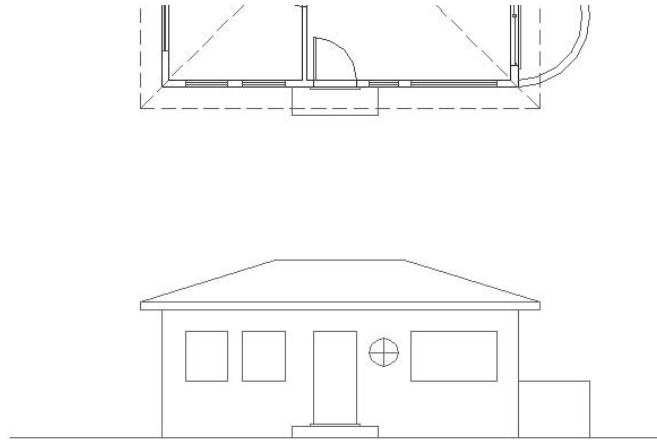

FIGURE 8.16: The completed round window
4. Pick the intersecting lines passing through the circle in four places outside the circle. The round window is finished (see Figure 8.16).